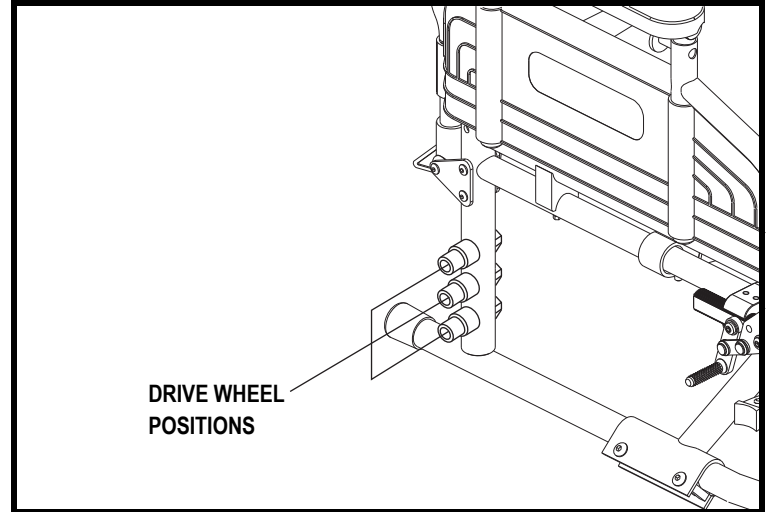

Figure 12. Drive Wheel Position Adjustment
2. Reposition the drive wheel up or down to the desired position. See figure 12.